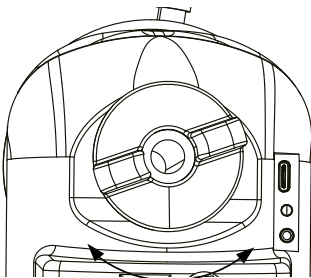

Fig. 14
Use the altitude and azimuth clutch knobs to manually adjust the smoothness of the mount's movement (Fig. 14, 15).
- **Clutch knobs preparation:** Fully tighten the clutch knobs on both axes. This is required to ensure a rigid coupling between the motors and the mount axes and to achieve maximum pointing accuracy (Fig. 14, 15).